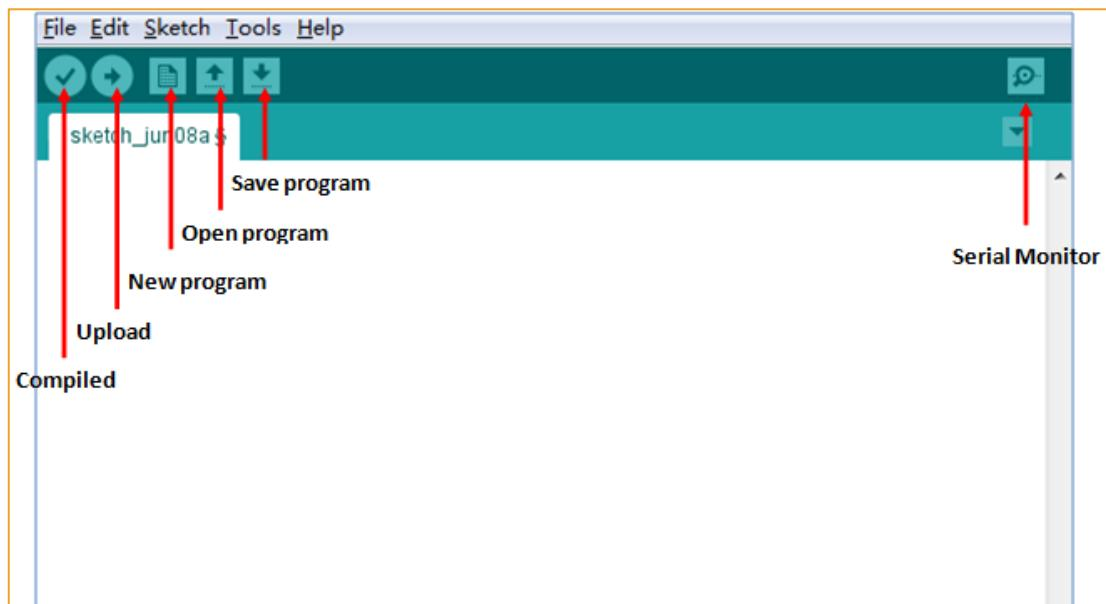

Figure 4-10 Arduino IDE interface
1. The first thing that catches your eye is the interface below. The toolbar button functions are "Compile" - "Upload" - "New Program" - "Open Program" - "Save Program" - "Serial Monitor", as shown in Figure 4-10.